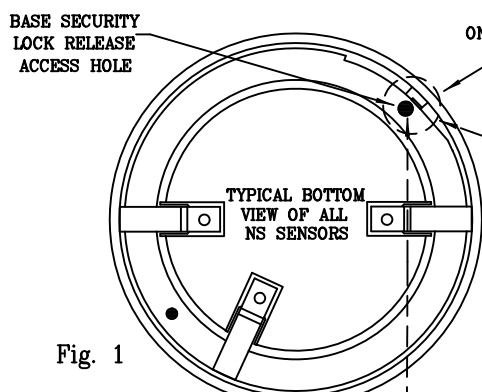
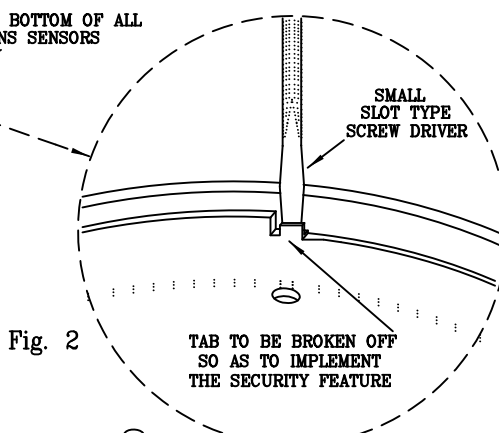
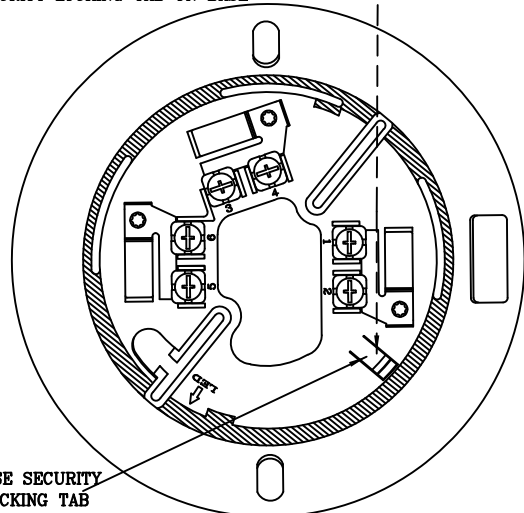

Fig. 1
Fig. 2
Fig. 3
- 1) Take any sensor and turn it over to view the bottom as shown in Fig. 1. Using a small blade type screw driver break the tab as shown in Fig. 2. This will allow the base security locking tab, as shown in Fig. 3 to stay elevated. This will prevent the sensor from being removed from it's base.